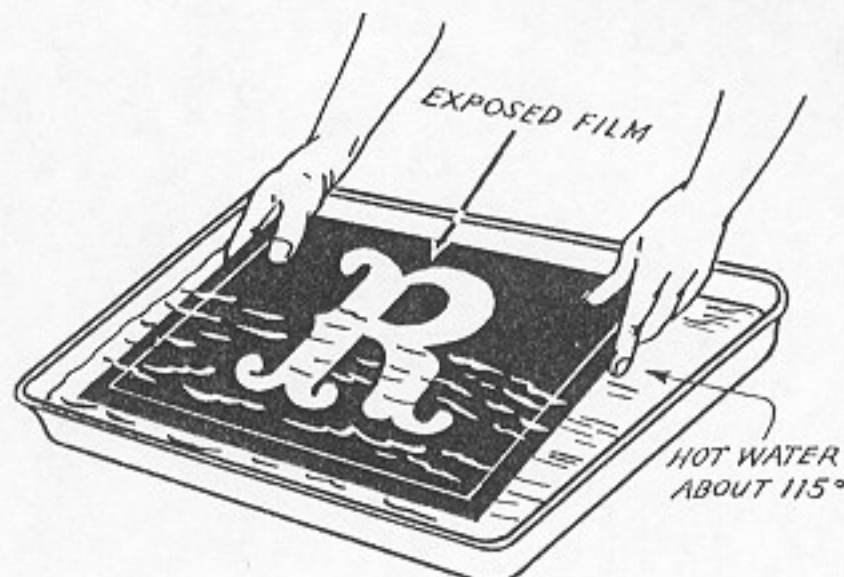

Fig. 142. Wash the Film
9. When the exposure is completed, turn off the light and remove the film from the printing frame. Place it in warm water, (about 115°F.) and gently agitate it as development takes place, Fig. 142. The unexposed areas of the gelatin which were protected by the corresponding opaque areas of the positive will dissolve and wash out. The exposed or remaining gelatin areas which received the light, harden and are not affected by the action of the warm water. About five minutes should be sufficient development.